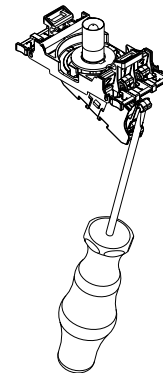

Fig. 12b
- 3b: Disassembly of the light element (Fig. 12b):